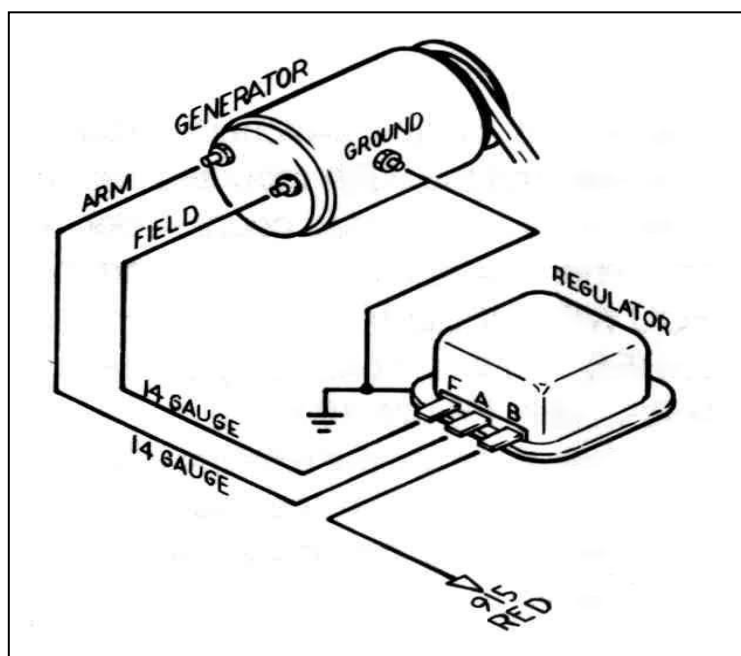

Figure 8-1 Generator Charging System
8.1 Generator Charging System. See Figure 8-1.